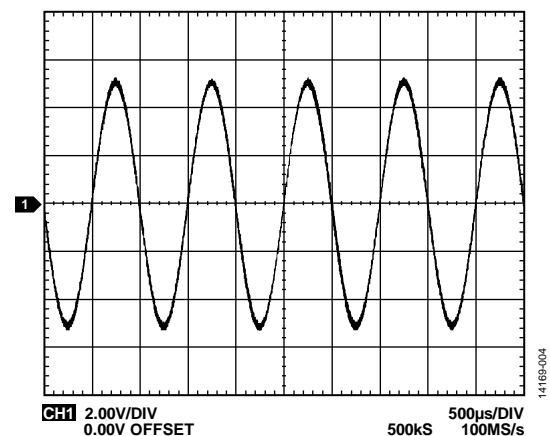

Figure 4. Output of the AD8253-EVALZ when  $G = 100$  (5 V Amplitude)
5. If the output signal is at 500 mV amplitude, set Switch 3 on the SW3 DIP switch to off and set Switch 2 to the on position. ( $G = 100$ ). The result must resemble Figure 4.